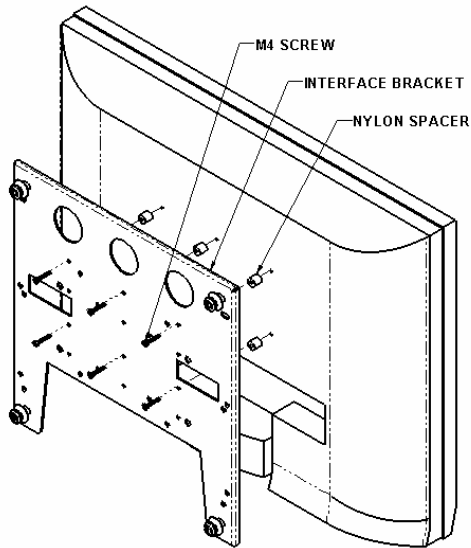
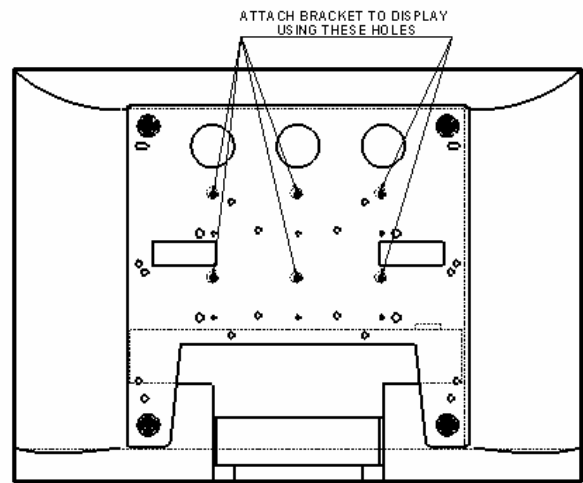

Figure 4
Figure 5
2. Place Nylon spacers over mounting holes on back of screen. Attach mounting brackets to the display using the M4 screws (see Figure 4 & Figure 5).